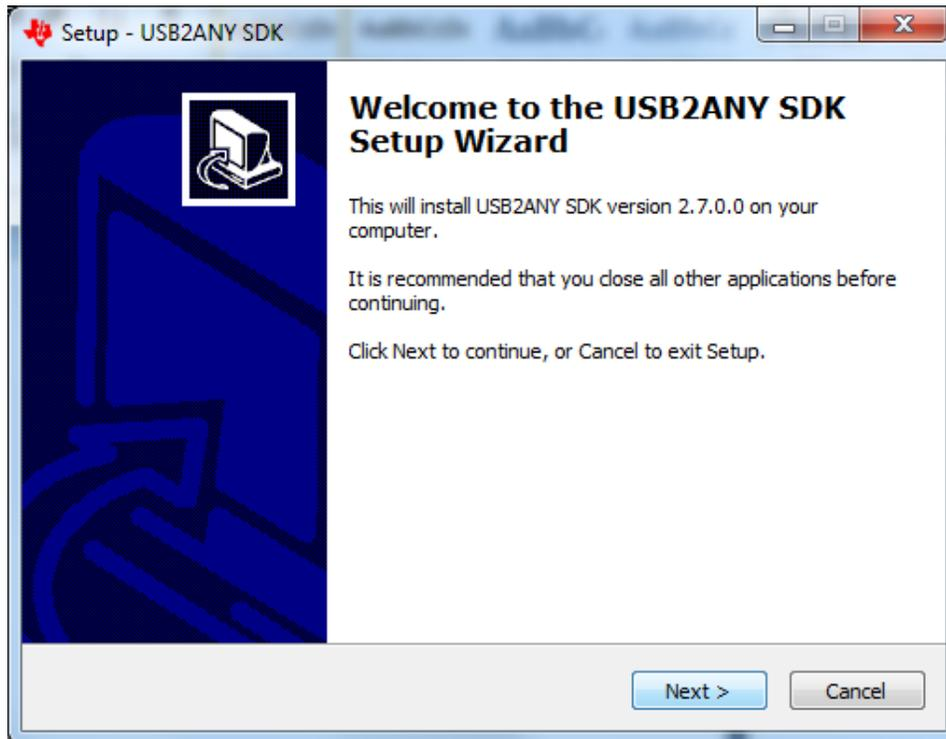

Figure 23. USB2ANY Installation Initialization
8. The setup window for the USB2ANY installation is displayed as shown in Figure 23. Click the *Next >* button to proceed with the initialization.